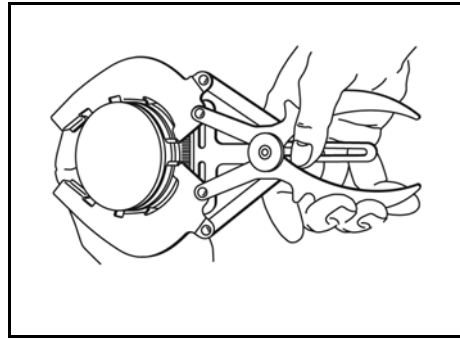

Figure 3
4. Using Piston Ring Expander #19340 (Figure 3), remove rings one at a time. Note the order and orientation of the rings before removal.